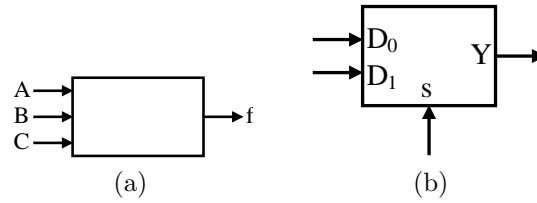

Figure 2: (a) The 3-input combinational circuit to be designed, and (b) A 2:1 Multiplexer Module.
2. **Combinational Circuit Design with Multiplexers** The input to a digital circuit are three signals  $A$ ,  $B$  and  $C$  (Note that  $\overline{A}$ ,  $\overline{B}$  and  $\overline{C}$  are *NOT* available). Logic 1 and 0 are available (*e.g.*, as  $V_{CC}$  and  $GND$ ). The output of the circuit is given to be  $f = \overline{A}B + \overline{A}\overline{B}\overline{C}$ . Implement the circuit using *only TWO* 2 : 1 *Multiplexer Modules* of the form shown in Figure 2(b) - do not use any other hardware.  $s$  is the select line. Data lines  $D_0$  and  $D_1$  are selected (*i.e.*, made the output  $Y$ ) when  $s = 0$  and 1, respectively.